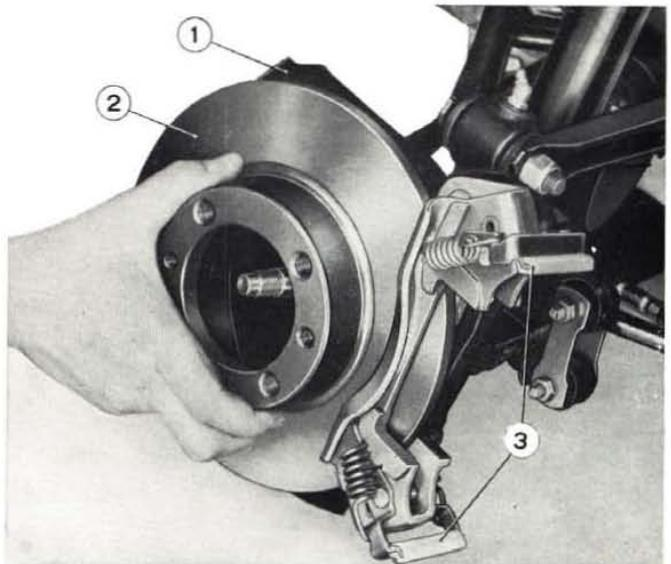

Fig. 454 - Removing brake disc.
- withdraw the brake disc as shown in fig. 454.